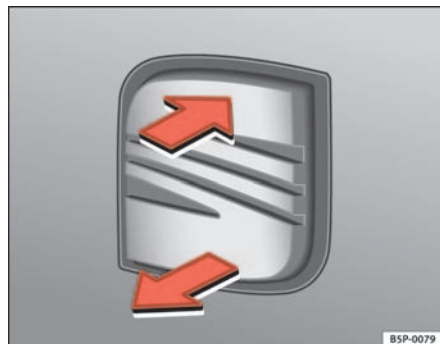

Fig. 66 Tailgate: Opening from the outside
- Pull on the release lever and lift the tailgate ⇒ fig. 66. The tailgate will then open.